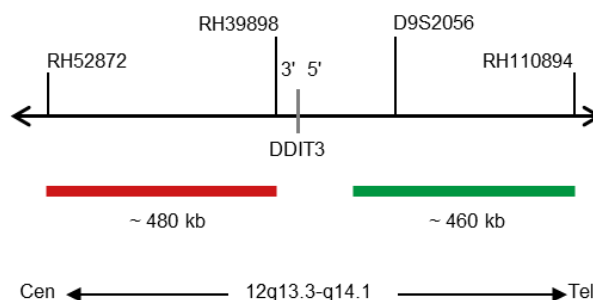

Fig. 1: SPEC DDIT3 Probe map (not to scale)
- Digoxigenin-labeled polynucleotides (~0.50 ng/μl), which target sequences mapping in 12q13.3-q14.1\* (chr12:58,024,366-58,486,511) distal to the DDIT3 breakpoint region (see Fig. 1).
- Dinitrophenyl-labeled polynucleotides (~0.75 ng/μl), which target sequences mapping in 12q13.3\* (chr12:57,386,302-57,865,800) proximal to the DDIT3 breakpoint region (see Fig. 1).